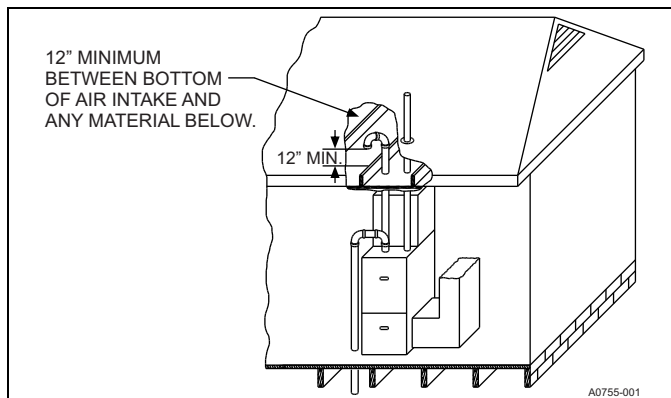

Figure 33: Attic and crawl space combustion air termination
- **Ventilated combustion air:** Combustion air is supplied through a PVC, CPVC, or ABS pipe that is connected to the coupling attached to the burner box and is terminated in a ventilated attic or crawl space. The combustion air and the vent pipes are not terminated in the same atmospheric zone. See Figure 33 for attic and crawl space termination. Only the combustion air intake can terminate in the attic. The vent must terminate outside.